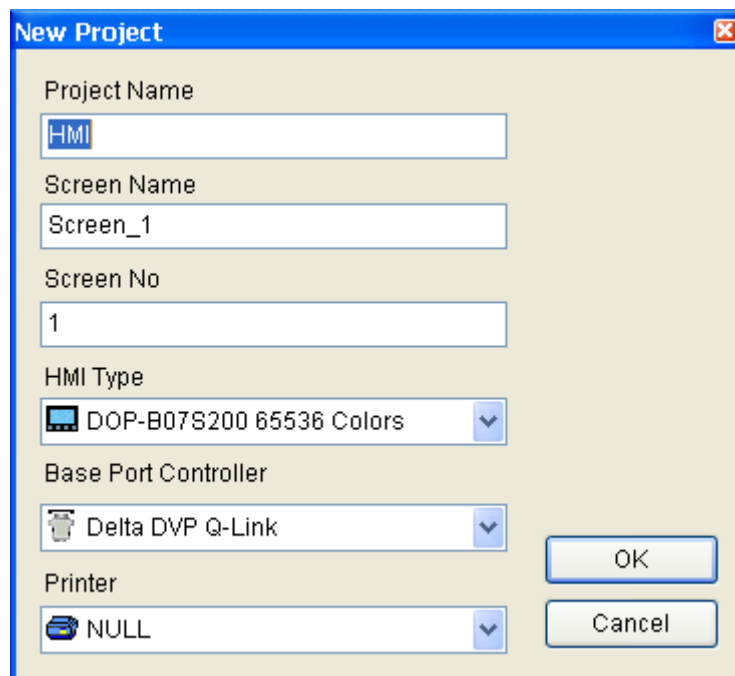

Fig. 3-2-4 Creating a New project
2. After pressing  or click **File > New**, it can create a new project and you will get a dialog box as shown in the following (Fig. 3-2-4).